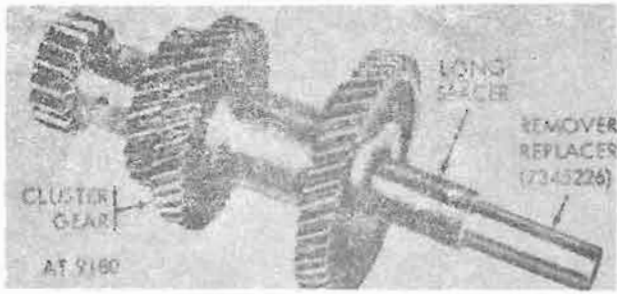

Figure 8-47. Installing remover—replacer (7345226) and long spacer in countershaft.
a. Lubricate remover-replacer (7345226), and long spacer and install in countershaft gear bore (fig. 8-47).